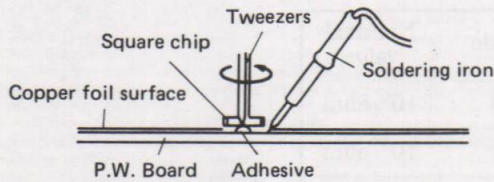

Figure 6
2. Grasp the square chip with a pair of tweezers, and alternately place the soldering iron on both terminals of the chip, while heating, gently twist the tweezers so that the square chip can be removed from the printed wiring board. Refer to Fig. 6.